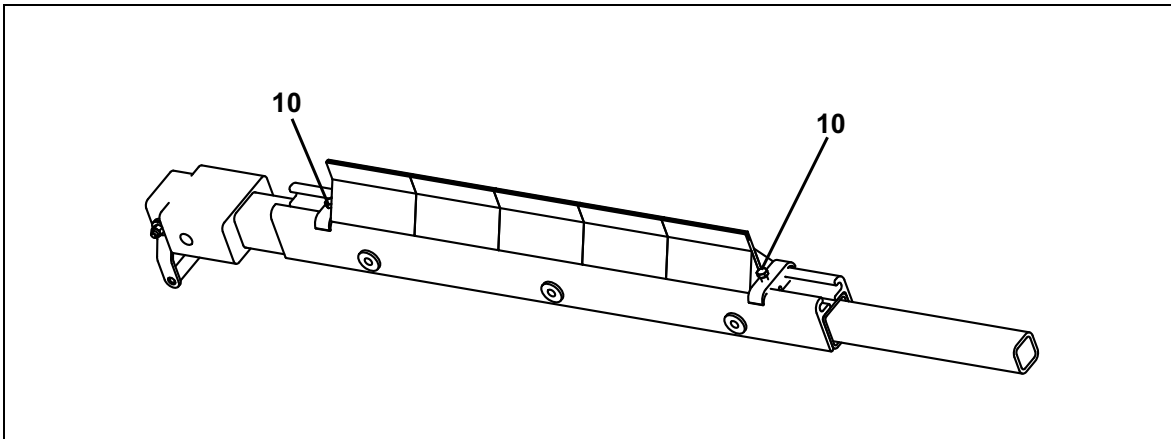

Fig. 33
10. Slide the cartridge by its grip (6, Fig. 33) onto the mainframe (1, Fig. 33).